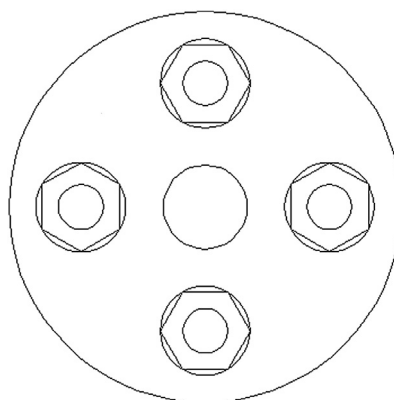

FIGURE 8.26
- Step 6.** Array the bolt around the top view four times, as shown in Figure 8.26.